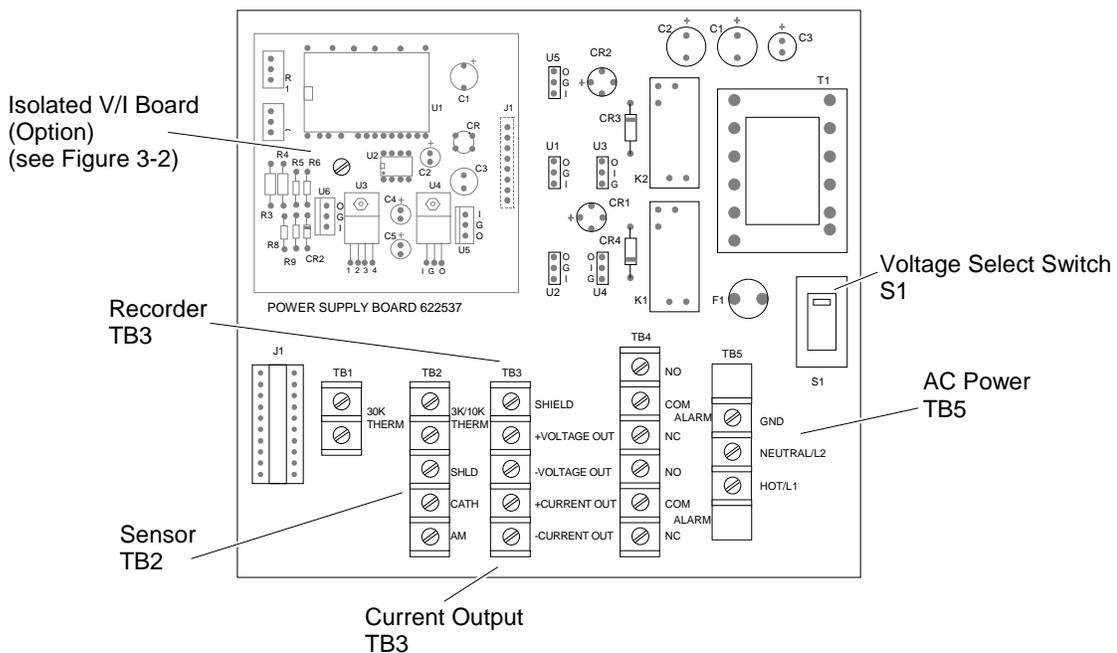

Figure 2-1. Power Supply Board
Electrical power is supplied to the monitor via a customer-supplied three-conductor cable, type SJT. minimum wire size 18 AWG. Route power cable through conduit and into appropriate opening in monitor enclosure. Connect power cable leads to terminal strip TB5 on the power supply board, as shown in Figure 2-1 and drawing 622228.
3. Verify that the line voltage selector switch S1 is set to indicate the nominal line voltage: either 115 or 230 (Figure 2-1).
A ground terminal (TB5-GND) is provided on the power supply board. Refer to Figure 2-1. This terminal must be connected, via the ground lead of the three-conductor power cable to a good earth ground.
If a long cable is used, it should be routed to the amplifier through appropriate conduit. Connect the amplifier end of the cable to terminal strip TB2 on the power supply board, as shown in Figure 2-1 and drawing 622228.
1. Connect leads of shielded recorder cable to VOLTOUT + and VOLTOUT - terminals of TB3 on power supply board (Figure 2-1). Connect shield to SHD terminal.
1. Verify that the current output board (Isolated V/I Board) is properly mounted on the power supply board in connector J2. See Figure 2-1. If originally ordered with the oxygen monitor, the board is factory installed.
The alarm output provides two sets of relay contacts for actuation of alarm and/or process-control functions. Leads from the customer-supplied external alarm system connect to terminal block TB4 on the power supply board. See Figure 2-1 and drawing 622228.